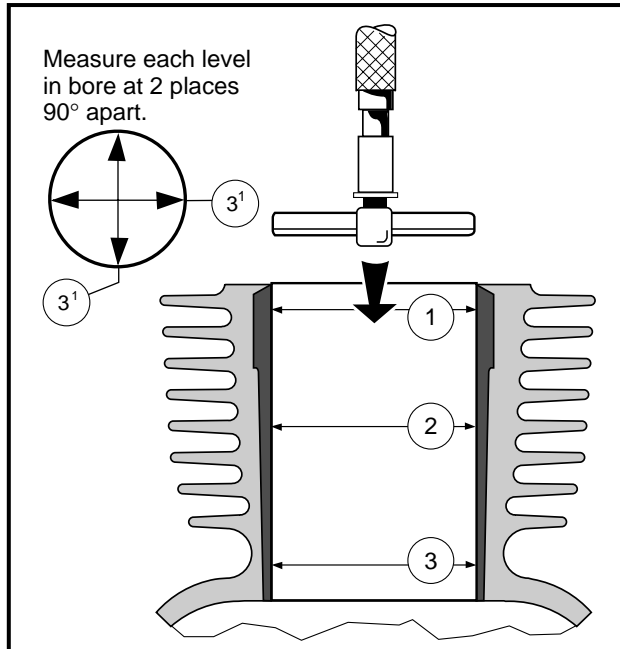

Figure 13-59 Measure Cylinder Bore
2. Make the first measurement parallel with the crankshaft and the second at right angles to the crankshaft at three different locations in the bore. The first measurement location is 0.4 inch (10 mm) from the top of the cylinder. The second location is in the center or 2.4 inches (60 mm) from the top, and the third location is 0.3 (8 mm) from the bottom of the cylinder or bottom of ring travel (**See locations 1, 2, and 3 in Figure 13-59, Page 13-30**).